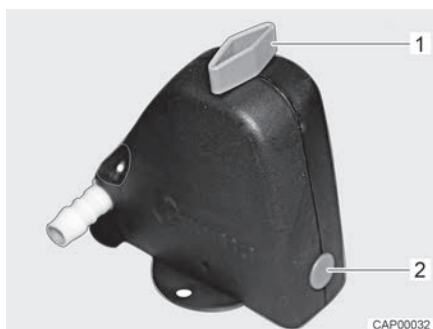
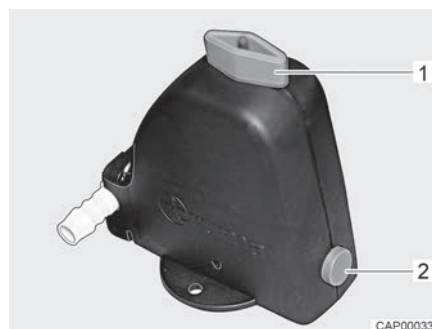

Fig. 75 Safety/drainage valve closed
Fig. 76 Safety/drainage valve open
- Open the safety/drainage valve (Fig. 75). To do this, turn the knob (Fig. 75,1) parallel to the safety/drainage valve. The push button (Fig. 75,2) jumps out. The open safety/drainage valve is shown in Fig. 76.